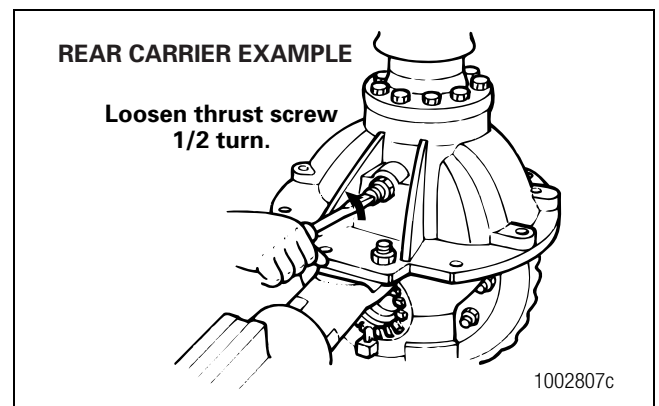

Figure 5.78
4. Loosen the thrust screw one-half turn or 180 degrees. Figure 5.78.